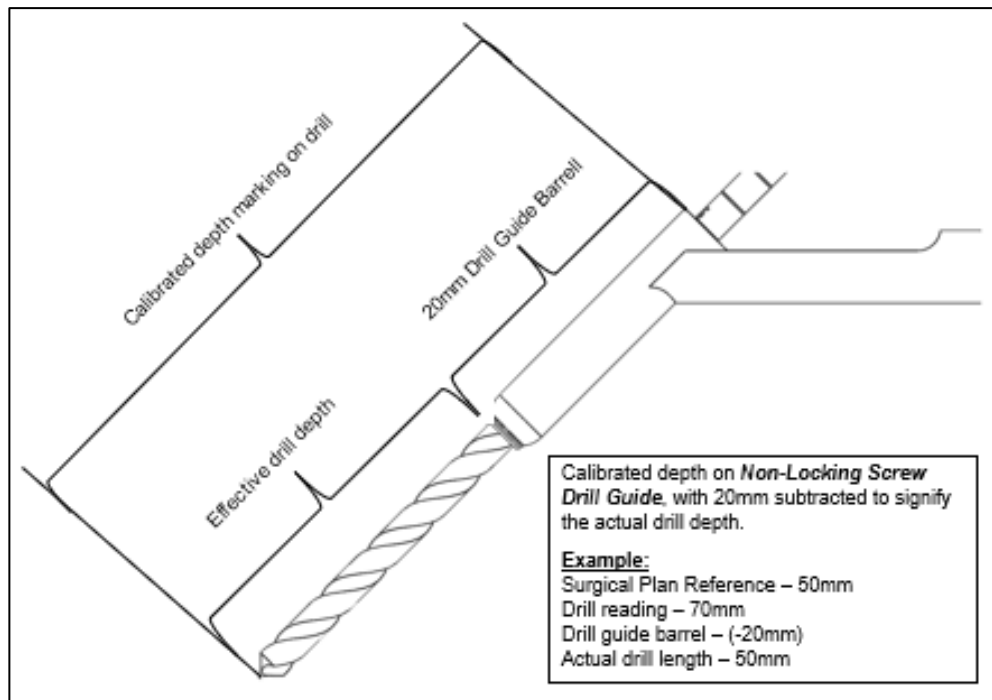

Figure 19: Long Side of **Non-Locking Drill Guide Measurements** with 200mm Drill
- The visual depth check is confirmed by ***checking the depth measurement on the drill shaft and subtracting 20mm (as marked on the drill guide barrel to account for the additional depth of the drill guide, Figure 19)***